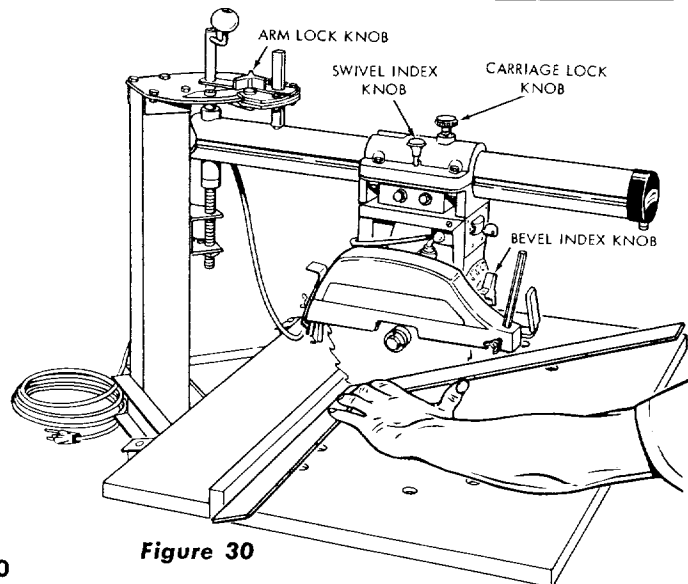

Figure 30
- a. Position the saw as shown in figure 30 and make sure the carriage lock knob (figure 30), bevel index knob and yoke clamp handle are tight. Also, make sure the radial arm is still indexed at 0° and the arm lock knob is tight.
- b. Place a framing square against the forward face of the fence and saw blade, as shown in figure 30.